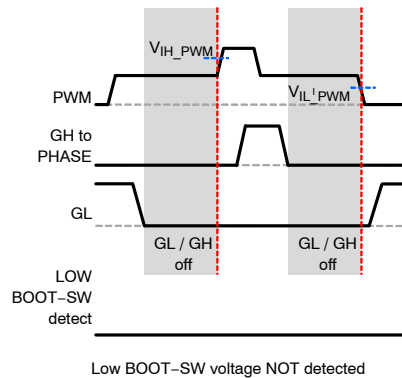

Figure 36. Low BOOT-SW Voltage NOT Detected and PWM from 3-State to HIGH or LOW
- If no low BOOT-SW condition is detected, the SPS follows the PWM command when exiting 3-state (see Figure 36).